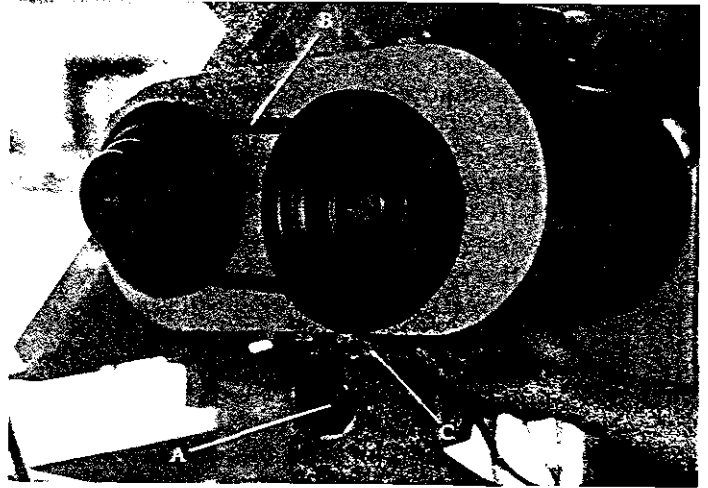

FIG.7
3. Release tension on the belt by turning the tension lock knob (A) Fig. 7 counterclockwise and lifting the motor swing forward.
4. Shift the belt (B) Fig. 7, to the desired grooves on the pulleys and adjust belt tension by pulling the motor plate (C) back until correct belt tension is obtained and tighten tension lock knob (A).